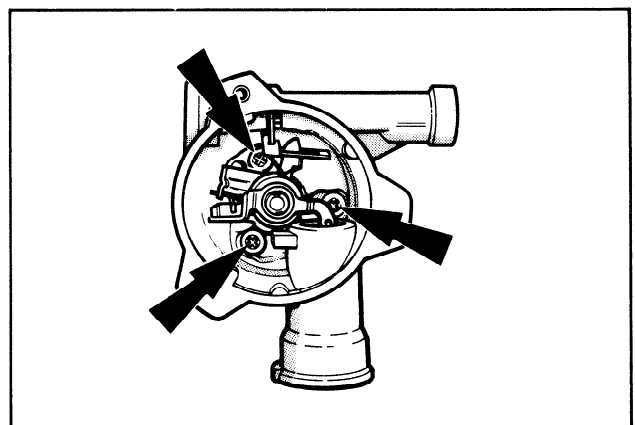

FIG. 28 Choke Assembly Retaining Screws
4. Remove three screws and remove choke assembly from carburetor (Figure 28).